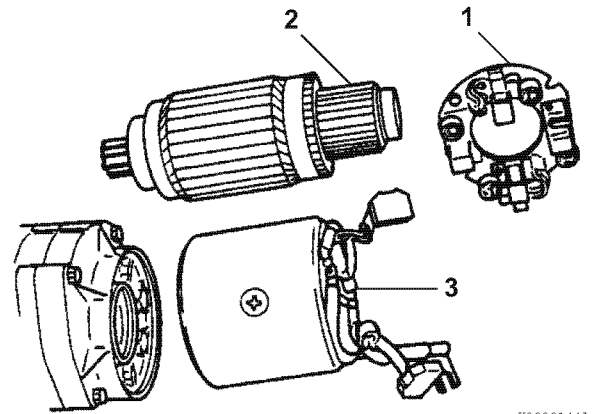

Figure 10-7
- Remove the brush plate and holder (Figure 10-7, (1)).
- Pull the field assembly (Figure 10-7, (3)) off from the armature assembly (Figure 10-7, (2)).